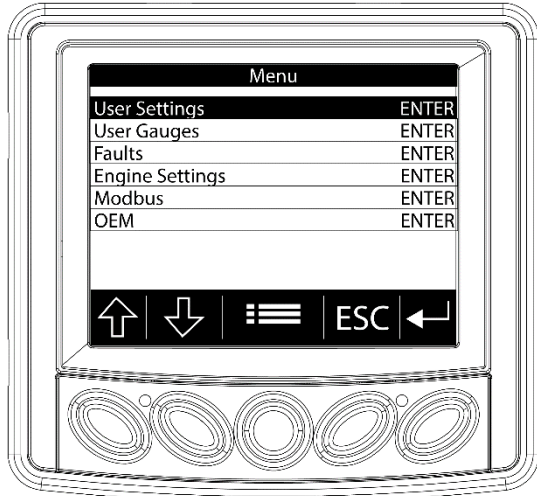

Figure 3-8
3.5.5.3. Pressing the "Arrow" (A&B) keys will scroll through the menu selections. (Figure 3-8)